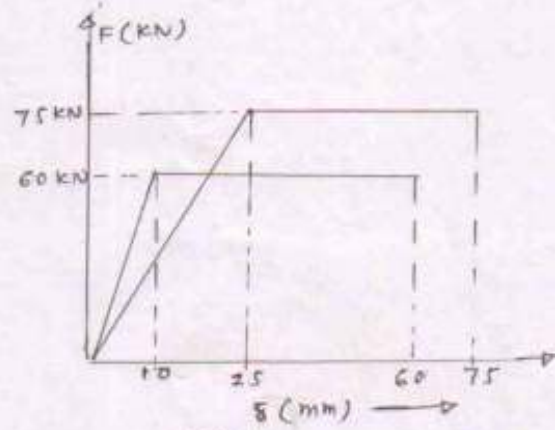

Fig: 3
- (b) Force deformation curve of two building is shown in Fig.3, calculate (i) Stiffness of building A and B (ii) Ductility factor of building A and B (iii) Energy absorption capacity of building A and B (iv) Maximum load capacity of building A **07**